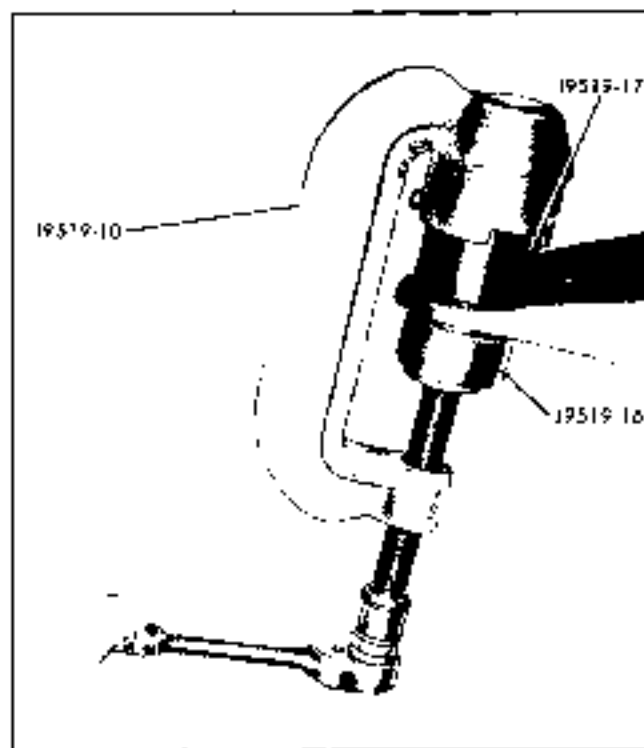

Fig. 3-22 Ball Joint Installation
1. Start the replacement ball stud into the control arm and install tools J 9519-10, J 9519-16 and J 9519-17 as shown in Fig. 3-22.